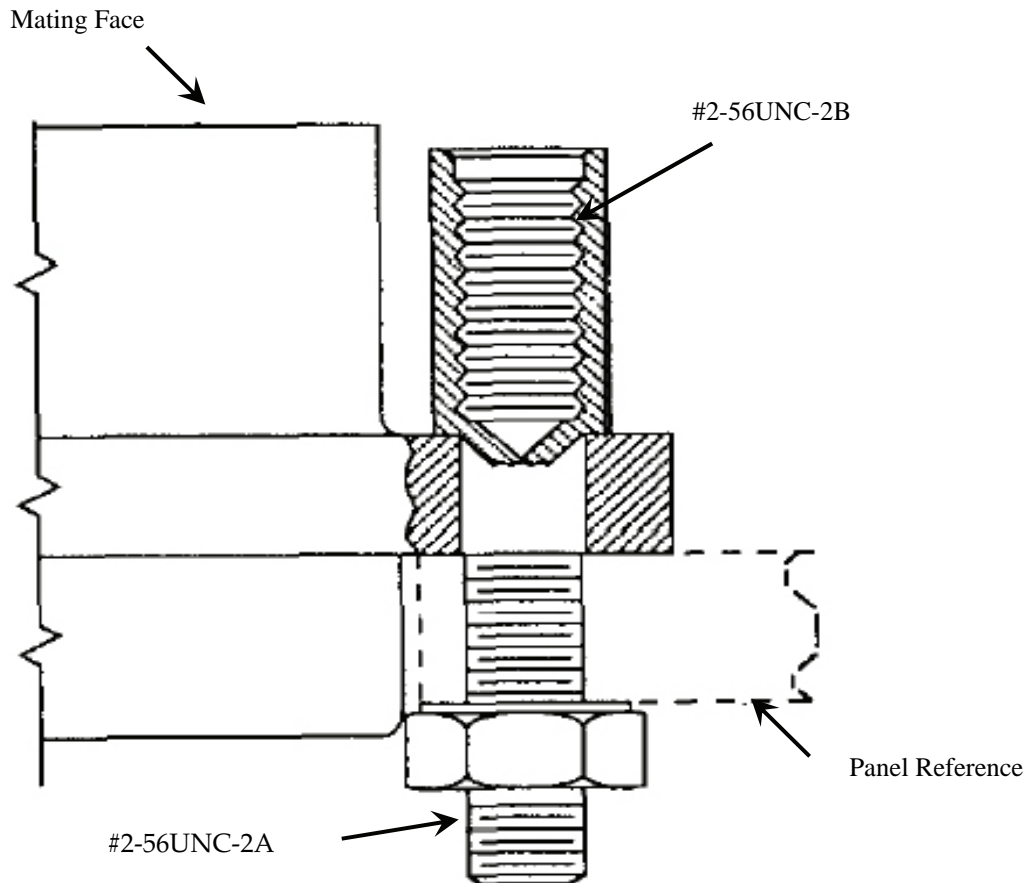

Figure 2. Jackpost Kit Part Number 320-9505-000
6. Jackpost Kit. The 100 pin connector uses jackpost kit for mounting purposes (Figure 2). Jackpost kit consists of two assemblies.